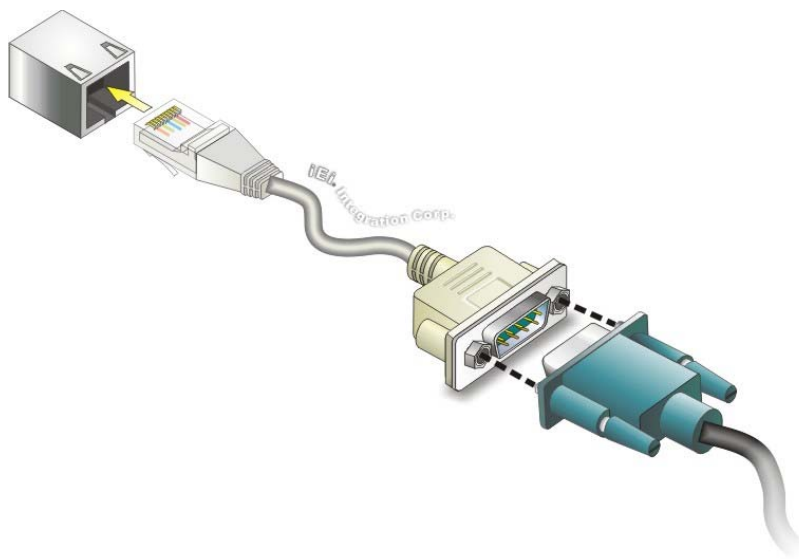

Figure 3-17: Serial Device Connector
- Step 3:** Insert the serial connector. Insert the D-sub 9 connector of a serial device into the D-sub 9 connector on the cable. See **Figure 3-17**.